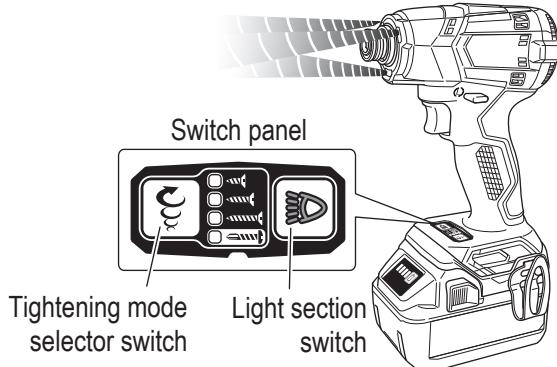

Fig. 13
5. How to switch the LED light brightness (Fig. 13)